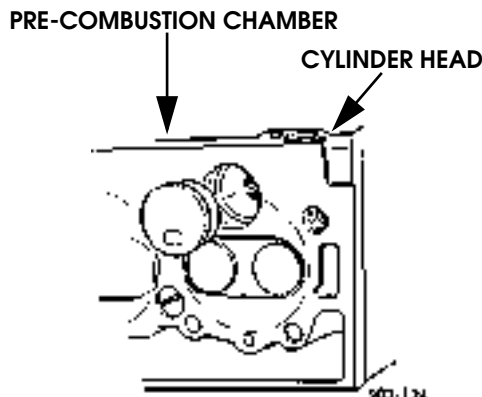

Figure 2-135: Pre-combustion Chamber Removal
5. Mark position of pre-combustion chambers in each cylinder head (Figure 2-135). Ideally, chambers (if reused), should be installed in same location in head.
6. Remove prechambers from cylinder heads (Figure 2-135). Use a round pry tool to loosen and start each chamber out of seat in cylinder head.